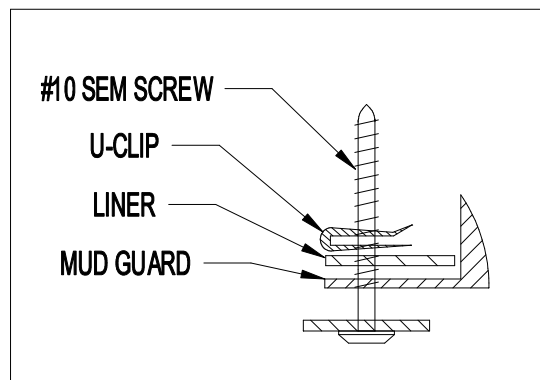

Figure 2
4. Mark, drill 1/8" holes, and install #10 SEM screws at locations A, C and D thru mud guard, fender and into a U-clip on the backside of fender and fender liner. **NOTE:** Do not install U-clips over fender lip (Figure 2).